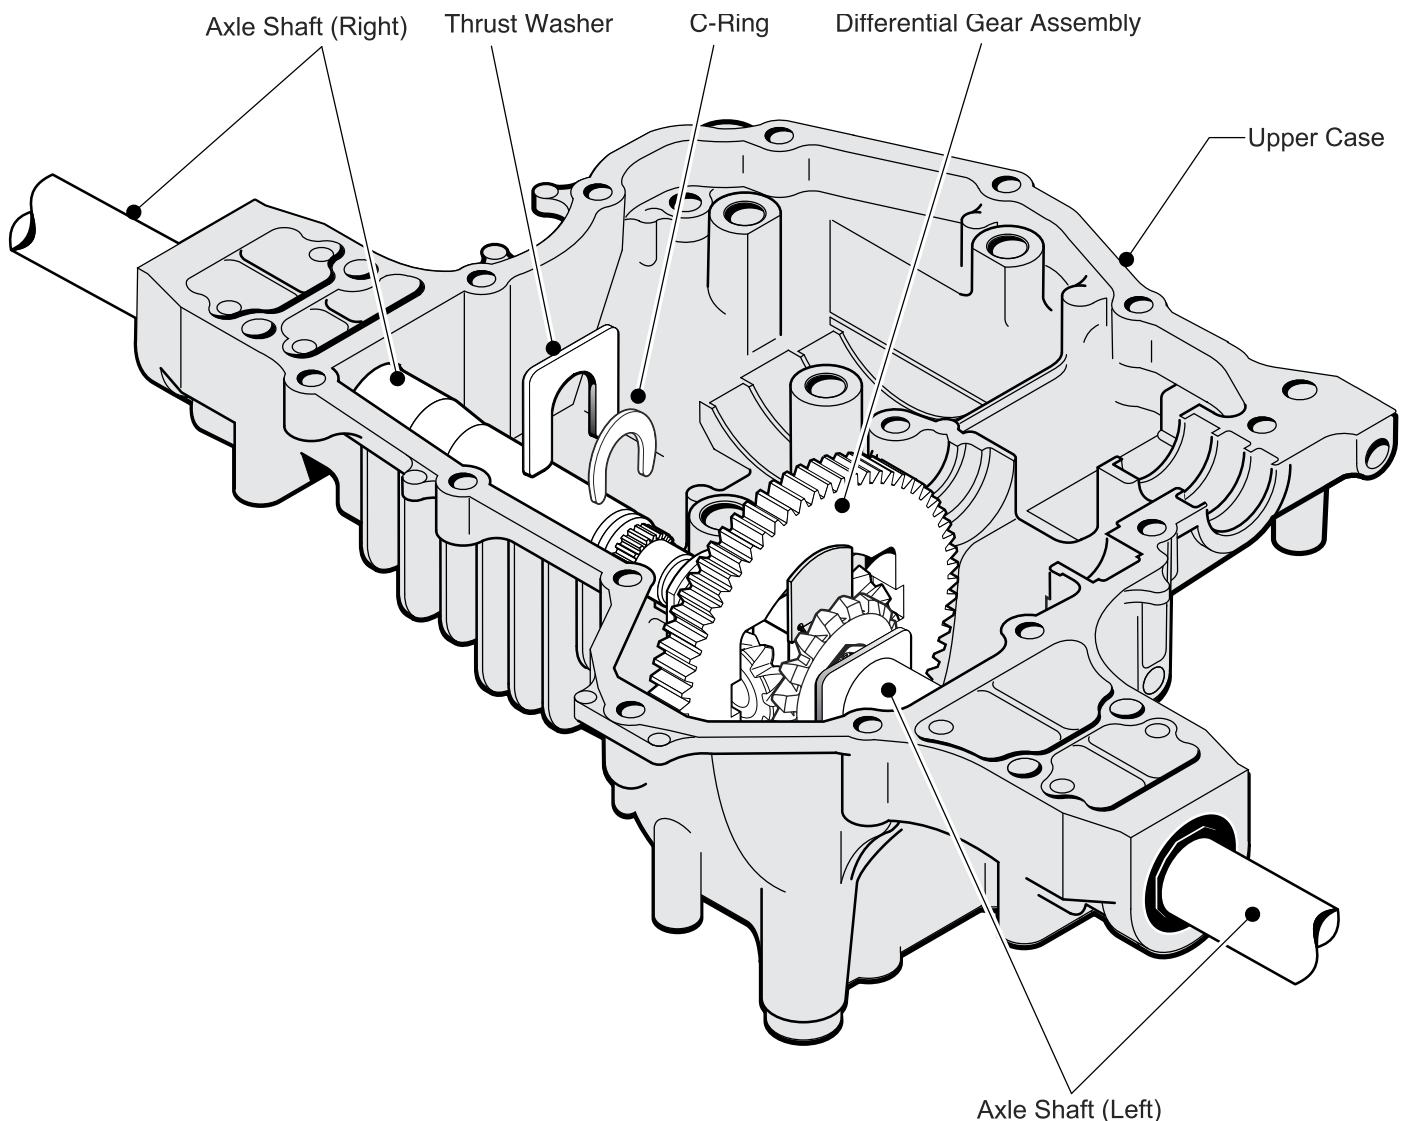

Fig. 41, Differential Gear Installation
5. Install the (2) C-Rings onto the Left and Right Axle Shafts; then, push Shafts inward until each C-Ring is captured within the Side Gear's recess. (Fig. 41)
6. Install the (2) Thrust Washers to the Left and Right Axle Shafts. (Fig. 41)